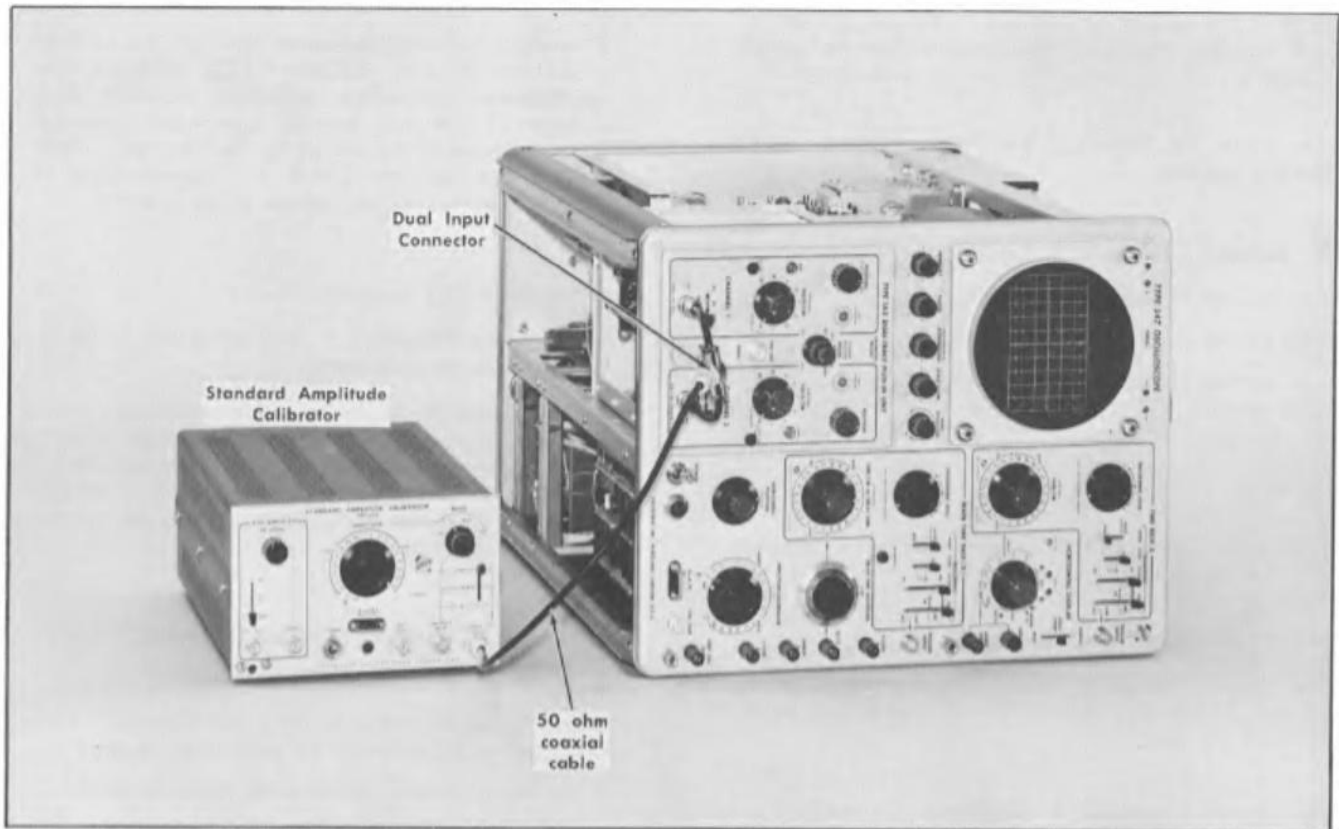

Fig. 7-6. Initial equipment setup for steps 5 through 16.
- a. Equipment setup is shown in Fig. 7-6.
- b. Apply a 0.2 volt calibrator signal from the Standard Amplitude Calibrator to both INPUT 1 and INPUT 2 connectors through a 50 ohm coaxial cable and the Dual Input Coupler. (See the note after item 2 in Equipment Required.)